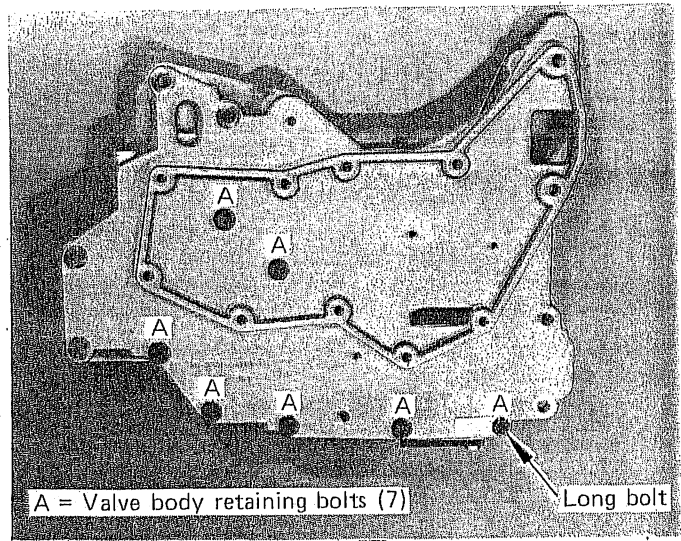

FIGURE 5
STEP 7. Remove the remaining valve body bolts as shown in Figure 5. Note these are short bolts with one long bolt. The valve body consists of three parts. The thick aluminum housing with all the valves is called the casting, a thin aluminum plate called a transfer plate that the filter was attached to, and a thin steel plate called a separator plate.
separator plate. Hold the valve body halves together and install six short bolts and one long bolt in place. (See Fig. 5) Tighten bolts **finger tight**.